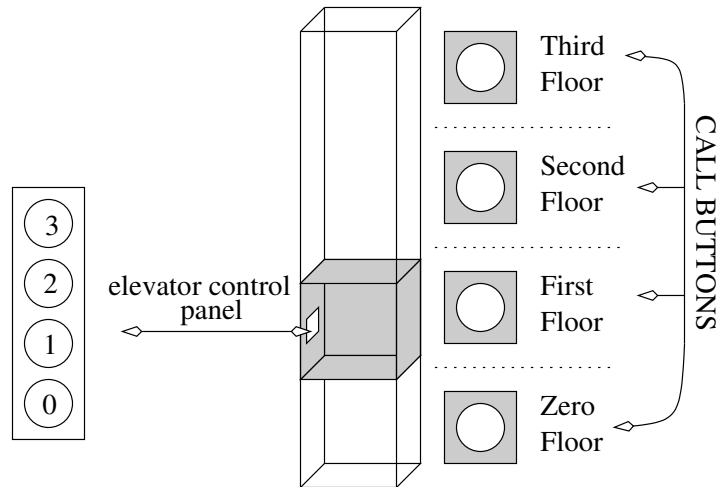

Figure 7.26: The layout of an elevator in a four story tall building.
13. **(36 pts.)** Construct a digital circuit to control the movement of an elevator in a four-story building. The elevator will always wait on its current floor until a call button is pressed; see Figure 7.26. The elevator then moves to the floor that was called. The elevator then opens its doors and waits for an elevator control button to be pressed. If no elevator control button is pressed and a call to another floor is received, then the elevator closes the doors and goes to the new floor. When a floor is selected on the elevator control panel, then the door close and the elevator moves to the desired floor.